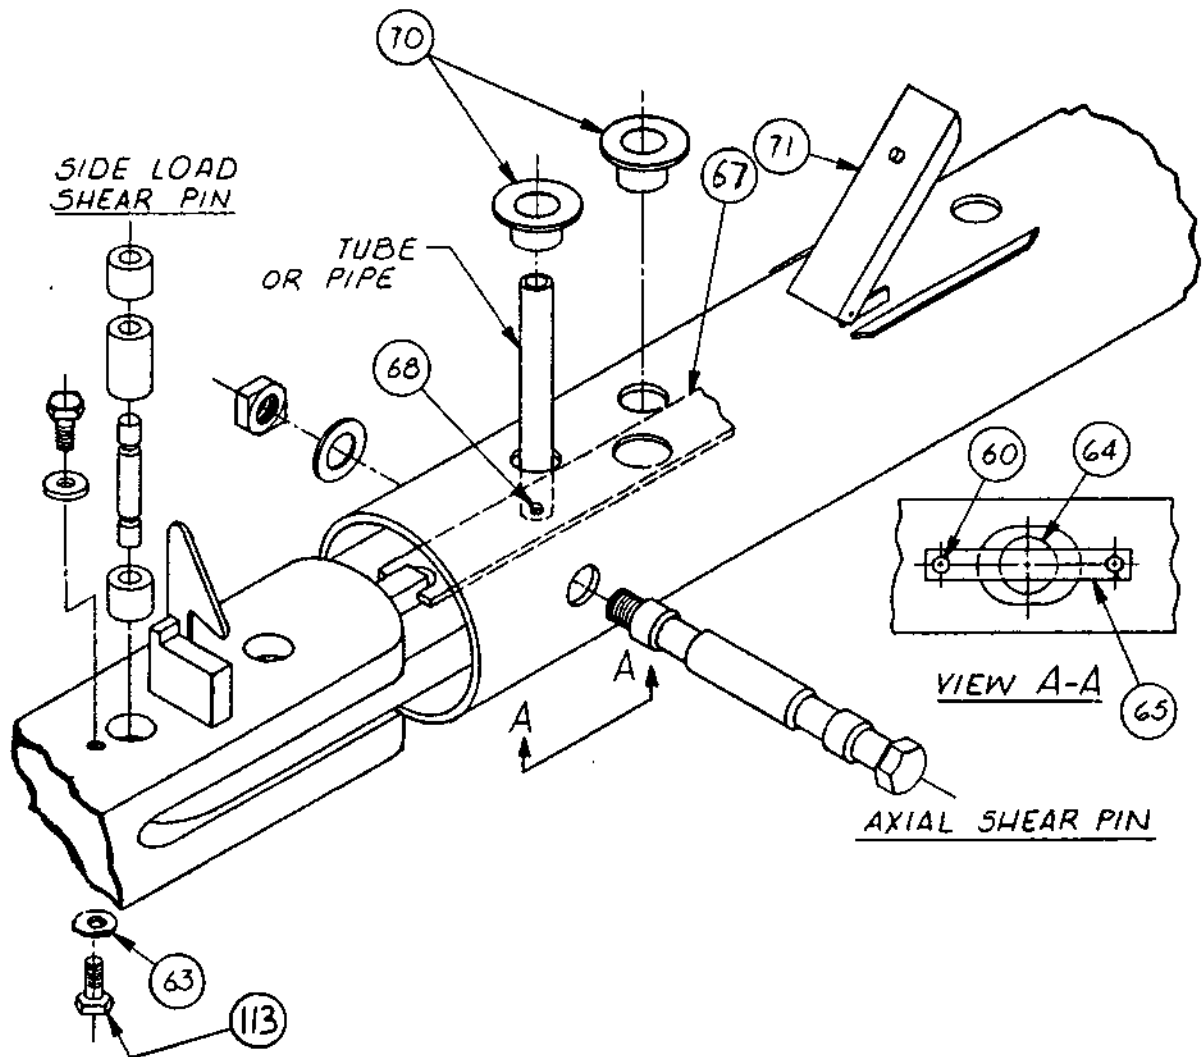

FIGURE 1, P/N 102028, TOWBAR SHEAR PIN INSTALLATION
Shear pin failure, indicating axial or side (turning) force overload, will be detected physically by a jerking movement as the force is applied through the towbar and visually by the deployment of the shear pin failure indicator (warning flag). A snapping sound may or may not be heard depending on background noise level. Refer to figure 1 and Table II for shear pin installation and applications.
1. After axial shear failure, a special pipe (see paragraph 4.7A.3) is needed to realign shear bar (item 54) with towbar body.
2. Remove two cap covers (item 70) shown in Figure 1.
3. Insert pipe into aft opening and fit end over cap screw head (item 68).
4. Press down the indicator assembly (item 71) and hold.
5. Using the pipe, move the shear bar (item 54) until the shear pin is aligned with the hole for complete push out. Alignment can be accomplished two ways:
- a. Sight into the forward observation hole and note when center drill on axial restraint pin (item 64) is in the center of the access hole in the towbar body.
- b. Look on the underside of the towbar and note when the head of axial restraint pin (item 64) is approximately centered in the restraining slot of the towbar body. See view A-A in Figure 1.